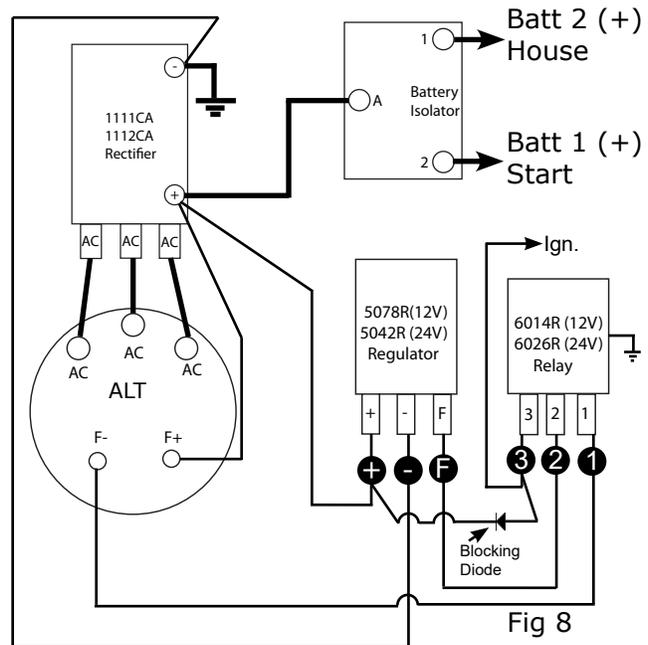

Fig 8
- 2) Identify and label vehicles wires connecting to voltage regulator and relay as indicated in Fig 8.
- 3) Remove **1**, **2**, **3** wires from relay and **+**, **-**, **F** wires from regulator terminals. Remove blocking diode from regulator **+** terminal and relay **3** terminal. Fig 8